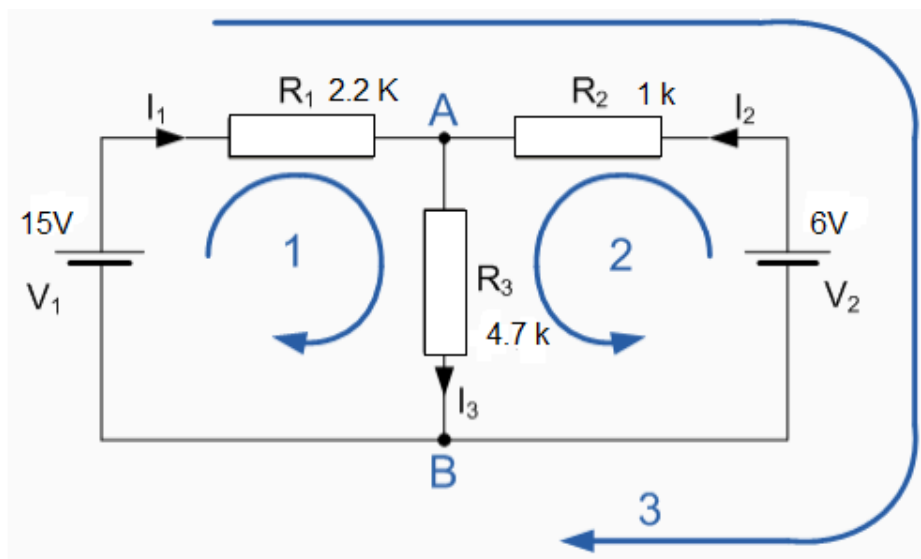
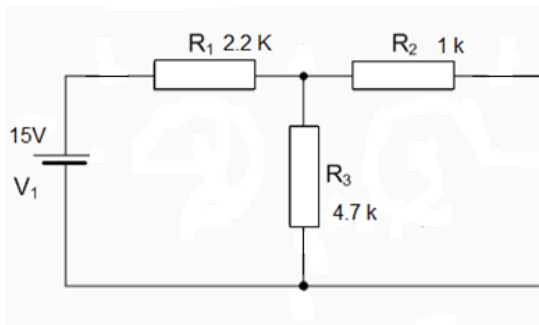
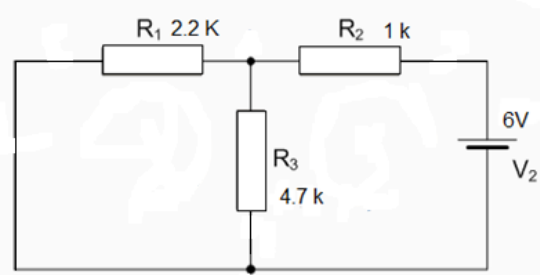
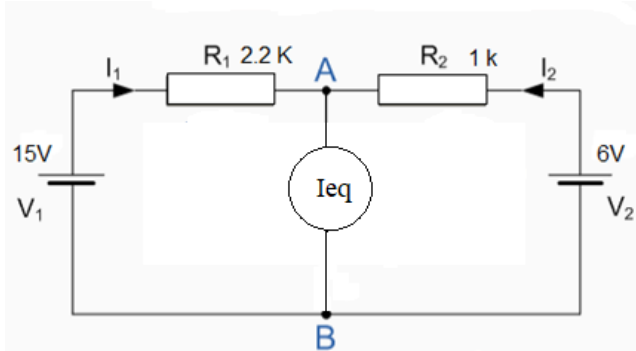

Fig. 5.1.1: Network analysis using KVL, and KCL.
Fig. 5.2.1: Partial circuit with S.C on source 2.
Fig. 5.2.2: Partial circuit with S.C on source 1
Fig. 6.2.1: Norton Equivalent current source.
The circuit in (Fig 5.1.1) contains two loops, with different current flowing in each. calculating this current will permit the further calculating of all the required quantities.
A circuit analysis will be practiced on the example circuit in Fig 5.1.1
- Assemble the circuit of the Fig 5.1.1 on the electronic circuit board. Ensure that it will be possible to open the circuit at the locations required for current measurements.
If we apply the superposition principle to the circuit in Fig 5.1.1, we obtain the two drawn in Fig 5.2.1, and Fig 5.2.2.
- First, assemble the circuit in Fig 5.2.1 keep source one, and replace the second source with short circuit.
- Second, assemble the circuit in Fig 5.2.2 keep the second source, and replace the first source with short circuit.
- 1- First, assemble the circuit in Fig 5.1.1 remove R_3 , measure the voltage E_{eq} between node A and B in Fig 6.1.1 and write the result in the table 6.1.4.
The method of Norton is similar to the method of Thevenin the difference lies in the form of the equivalent circuit: in the method of Norton the equivalent source is a constant current source instead of a constant voltage source shown in Fig 6.2.1, as we used in the method of Thevenin.
- 5- First, assemble the circuit in Fig 5.1.1 remove R_3 , measure the current I_{eq} between node A and B in Fig 6.2.1 and write the result in the table 6.2.4.